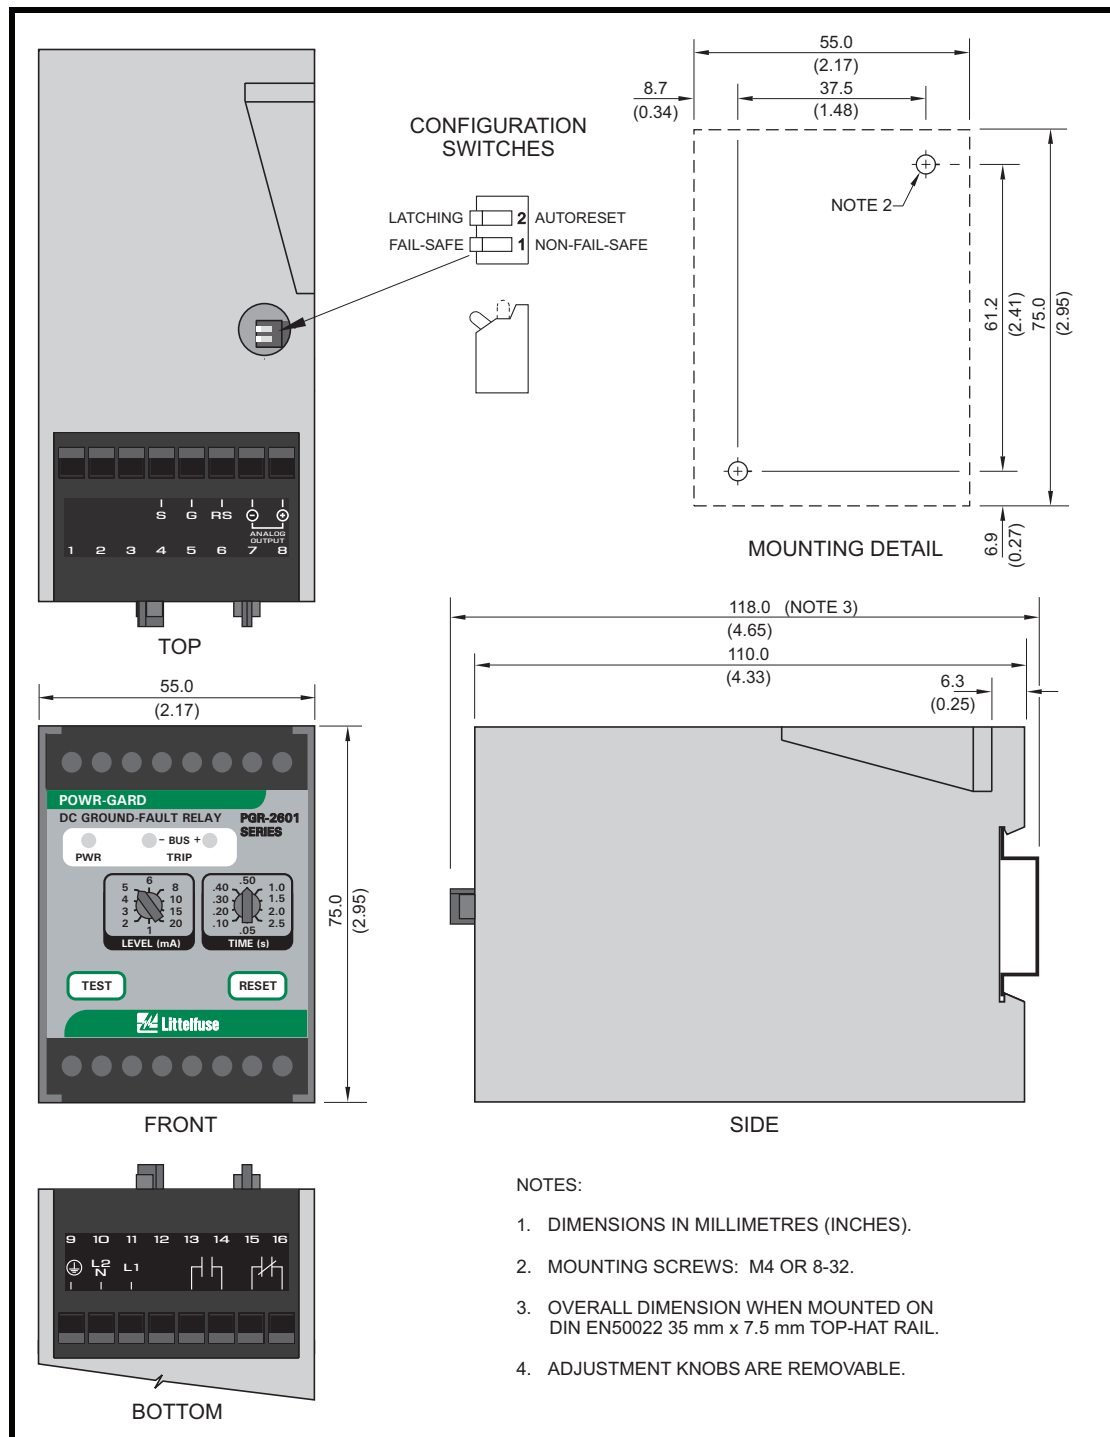

FIGURE 2. PGR-2601 Outline and Mounting Details.
2.1 Configuration-Switch Settings (See Fig. 2)
A PGR-2601 can be surface or DIN-rail mounted. See Fig. 2. Panel mounting requires a PGK-0055 or PGK-0060 Panel-Mount Adapter. See Figs. 4 and 5.